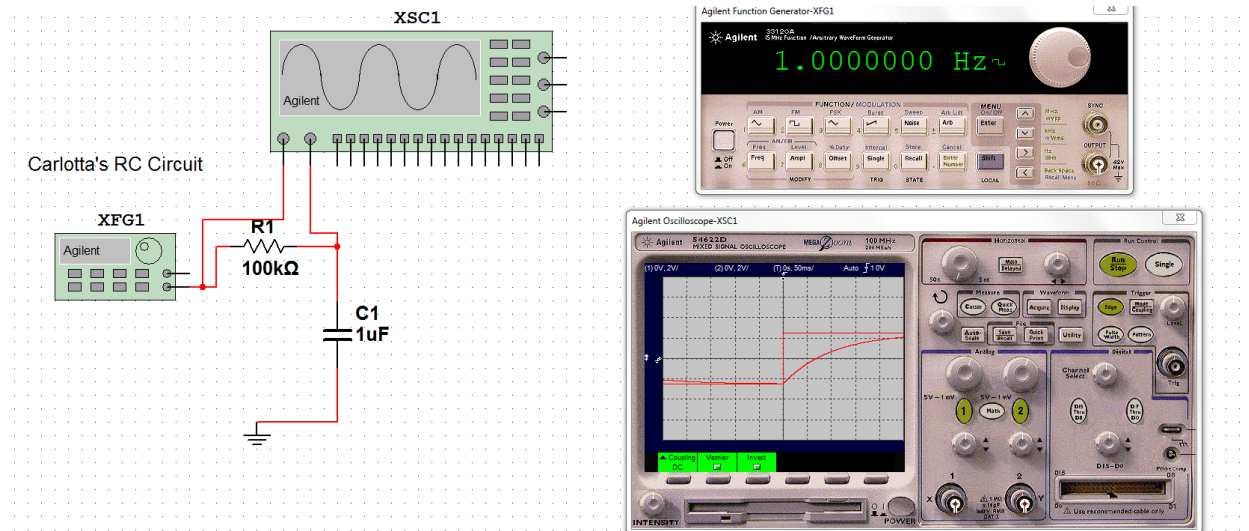

Figure 5: Function Generator and Oscilloscope Setup
11. Connect the output of the function generator to the input of the circuit to replace the voltage source that was deleted. Channel 1 of the oscilloscope should measure the input also and channel 2 should still measure the voltage across the capacitor. The schematic should now look like Figure 5.